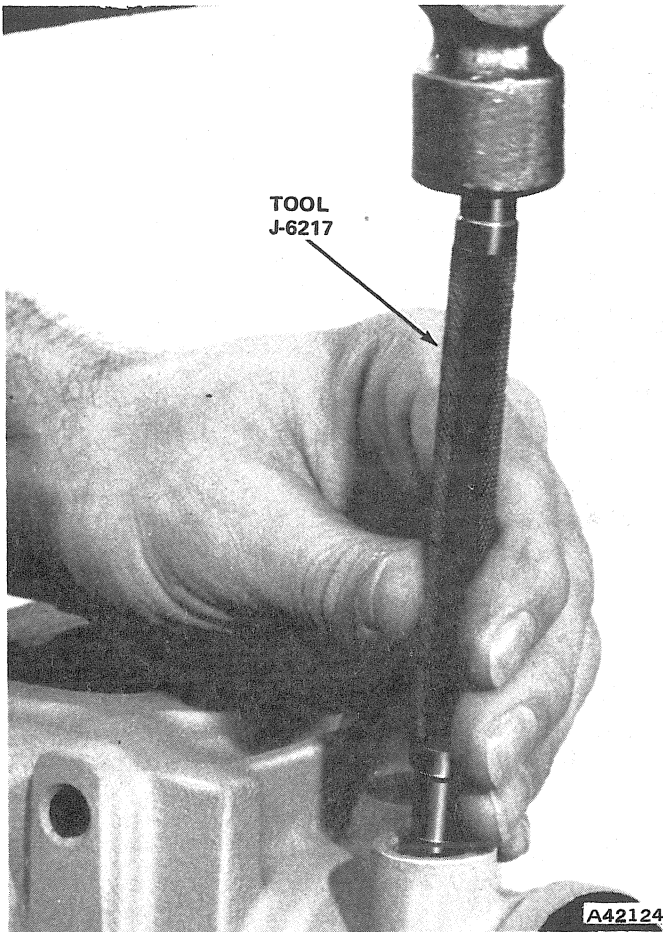

Fig. 2L-22 Hose Connector Seat Installation
- (1) Lubricate housing bores and all replacement bearings and seals with power steering fluid.
- (2) Install pitman shaft needle bearing using Tools J-8092 and J-21553 (fig. 2L-18). Install bearing until approximately 1/32 inch (0.79 mm) below shoulder in housing bore.
- (3) Install single lip seal and backup washer (fig. 2L-17). Seat washer and seal using tool J-21553. Install seal and washer only far enough to provide clearance for next seal and washer, steel washer and retaining ring, and to provide small clearance between seals.